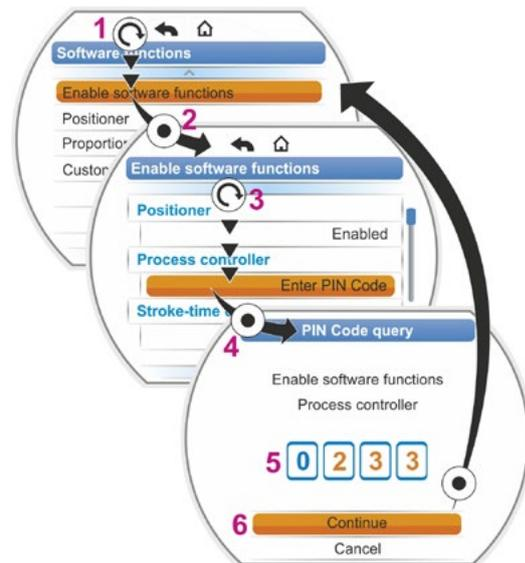

Fig. 2: Enable software function
2. Select 'Enable software functions' (fig. 2, item 1) and confirm (fig. 2, item 2).